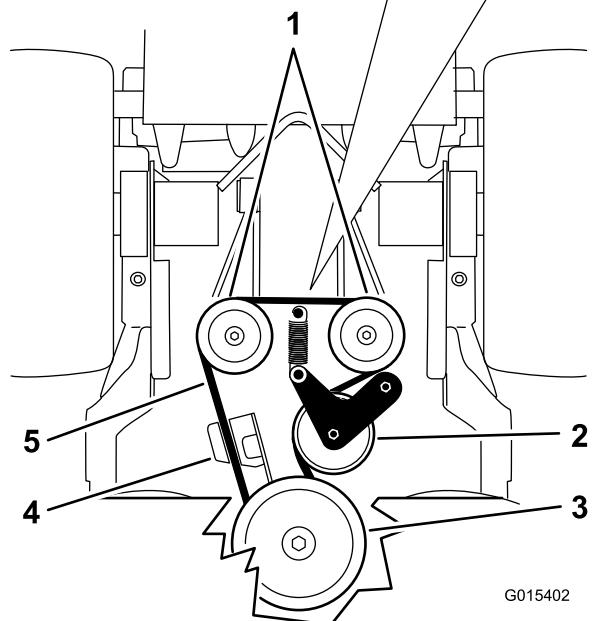

Figure 65
5. Remove the shoulder bolt, the nut, and the washer from the engine deck and connected spring (Figure 65).
6. Remove the pump-drive belt (Figure 65).
8. Install the spring onto the shoulder bolt and washer, and connect it to the engine deck with the nut (Figure 65).